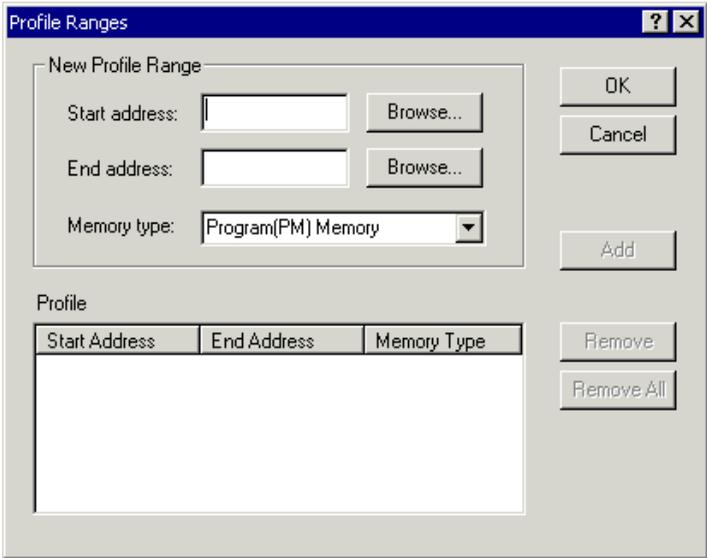

Figure 3-9. Profile Ranges Dialog Box
- 2. From the **Tools** menu, choose **Profile**. Then choose **Add/Remove Profile Ranges** to open the **Profile Ranges** dialog box, shown in Figure 3-9.